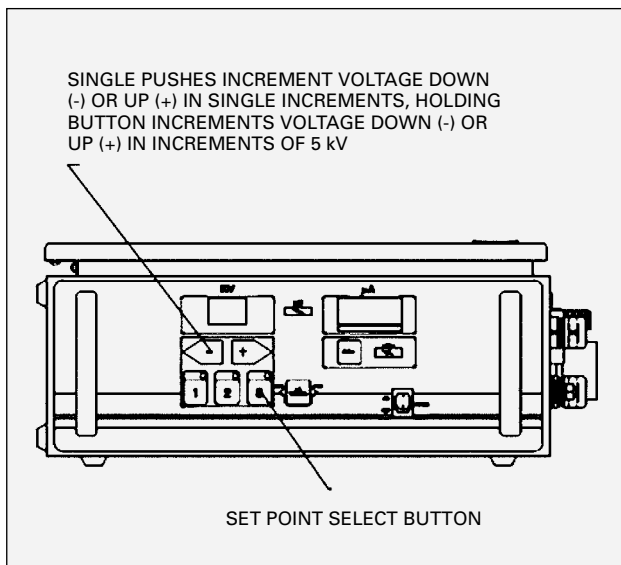

Figure 22: kV Adjust/Setpoint Buttons
When the applicator is off, the present setpoint can be changed by pressing the 1, 2, or 3 buttons on the front panel shown in Figure 22. The setpoint that is currently selected will have the LED light in the upper right corner of the button lit.
To adjust one of the preset setpoints, ensure the applicator is off in local mode and select the desired setpoint by pressing the corresponding setpoint button. The setpoint can then be adjusted between 20 kV and full kV using the + and - buttons on the front panel of the 9060 Controller shown in Figure 22. Single pushes of the + or - buttons will increment or decrement the currently selected preset in units of 1. When the + or - buttons are held in for longer than a 1/2 second, the kV display will begin incrementing or decrementing in units of five (5).